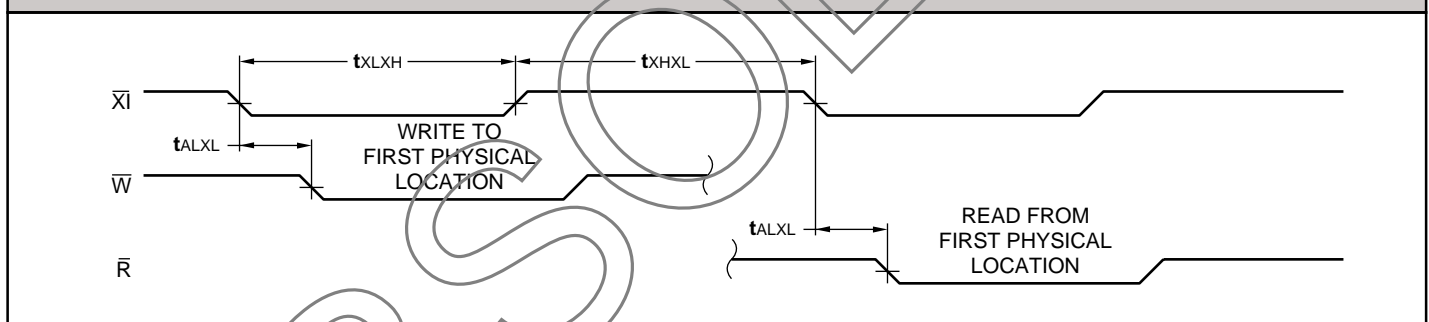

FIGURE 1. FIFO MEMORY (DEPTH EXPANSION) BLOCK DIAGRAM
(1) See Figure 1 (Depth Expansion Block Diagram)
(2) Unchanged